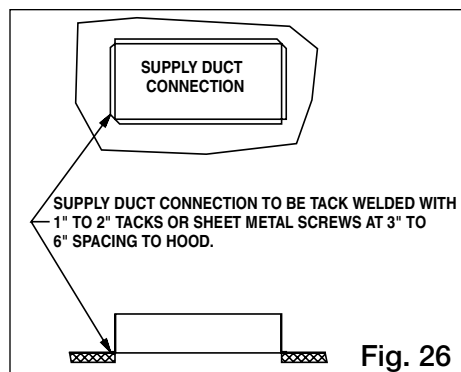

Fig. 26
3. The supply duct connection is tack-welded at 1 to 2 in. (2.54 to 5.08 cm) intervals, or sheet metal screws at 3 to 6 in. (7.62 cm to 15.24 cm) spacing to the hood. (Fig. 26)